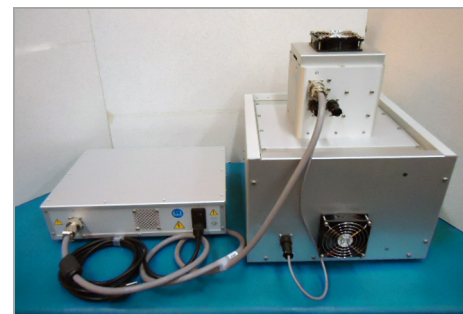

Figure 6. Rear Cable Connections
9. Connect the Power Supply to the Lamp with the Interconnect Cable (PN 40695) (Figure 6).